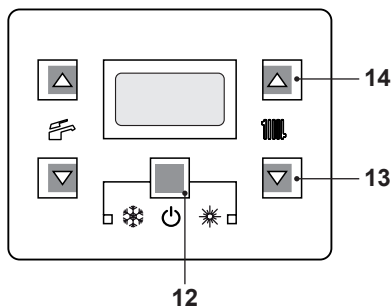
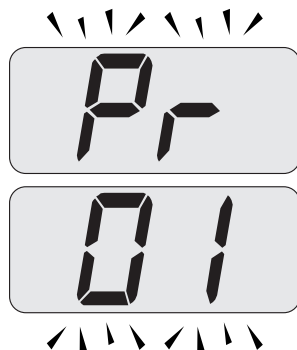
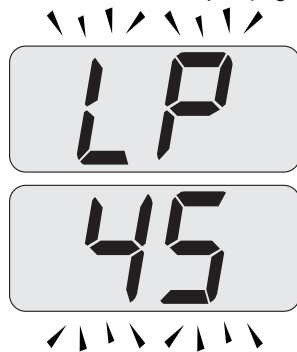

Fig. 10.16
Fig. 10.17
Fig. 10.18
- Enter in "programming mode" by sequentially pressing and holding in keys, 12 - 13 and then 14 (Fig. 10.16) for 10 seconds until the letters **Pr** that alternate with code **01** are displayed on the LCD display, indicating that "parameter 01" (Fig. 10.17) has been activated.
- Press keys 13 and 14 (Fig. 10.16) at the same time until the LCD display displays the letters **LP** that alternate with the heating water temperature value (e.g. **45**), indicating the activation of the "flue sweep function" at minimum output (Fig. 10.18).
- By pressing 14 (Fig. 10.16) it is possible to change power in flue sweep mode: with the letters **hP** on the LCD display which alternate between the heated water temperature (i.e. **32**), we are in the "flue sweep function" at the minimum power during heating (Fig. 10.19).
- Press sequentially keys, 12 - 13 and then 14 (Fig. 10.16) and hold in for 10 seconds to exit the "flue sweep mode" and return to the previously set boiler status (Fig. 10.21).